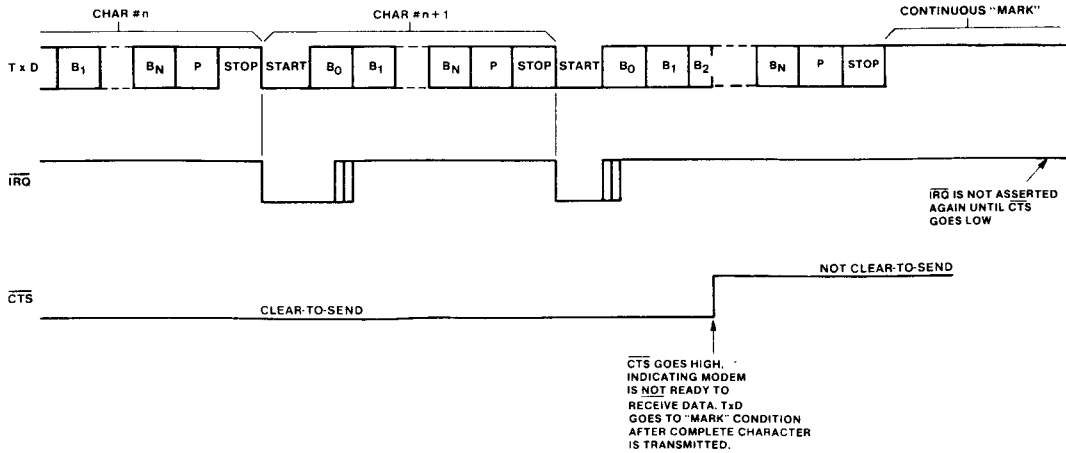

Fig. 10A - Effect of CTS on CDP65C51A transmitter
**Effect of  $\overline{CTS}$  on CDP65C51A Transmitter (Fig. 10A)**